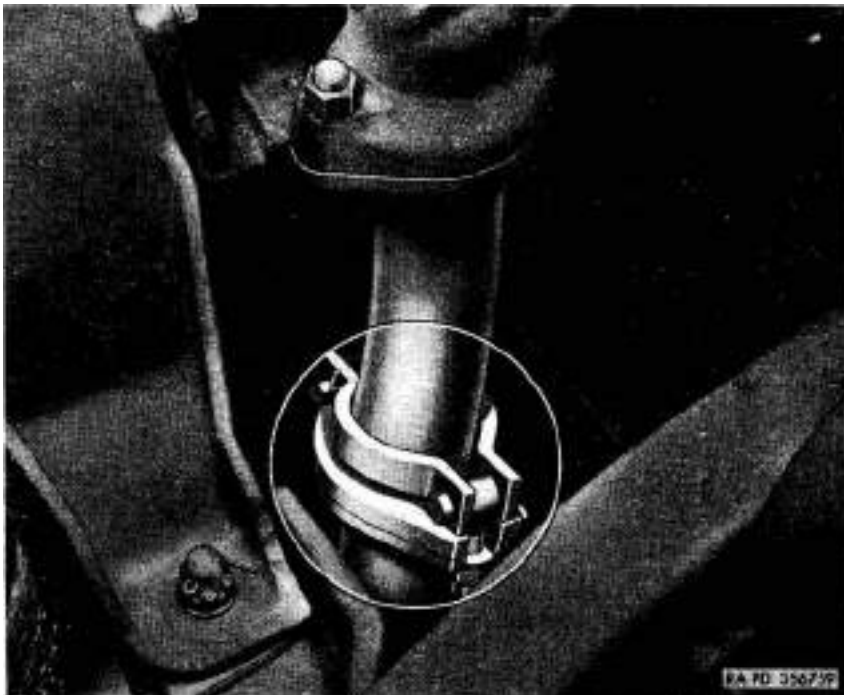

Figure 26. Exhaust pipe disconnect points.
- (5) Loosen nuts on eye bolts at exhaust pipe connection and disconnect upper and lower exhaust pipes (*fig. 26*).